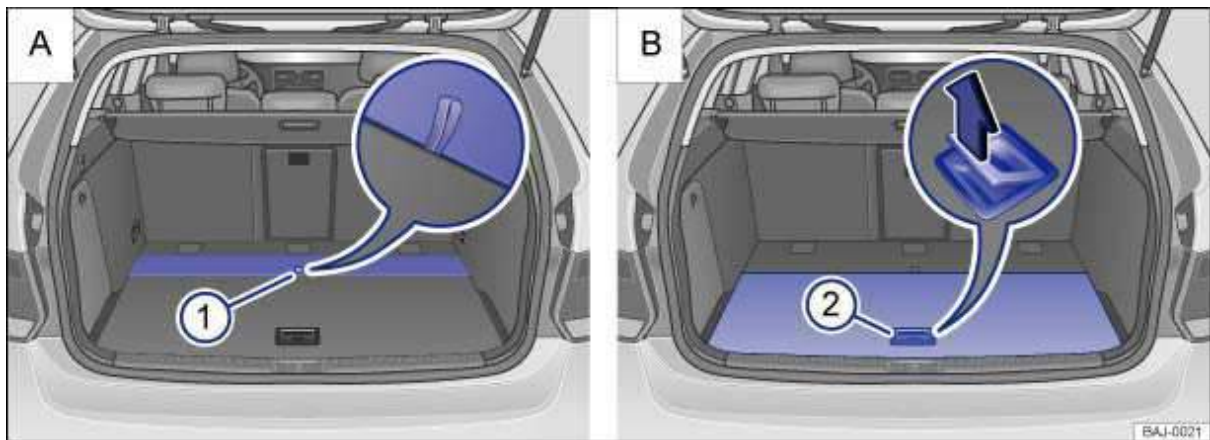

Fig. 100 In the luggage compartment: Opening luggage compartment floor.
- To *open* the luggage compartment floor, lift it by the loop ⇒ fig. 100 \(A\) \(1\). Hold the luggage compartment floor in this position.